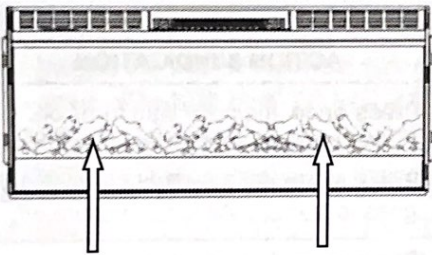

Figure 1.
C. Place unit face down on a soft, non abrasive surface. Remove the bracket from the back of the unit by removing the screws, refer to Figure 1.
- B. If your fireplace come with log set, remove the log set from the package, put it to the fireplace designed place. **Figure 1.**